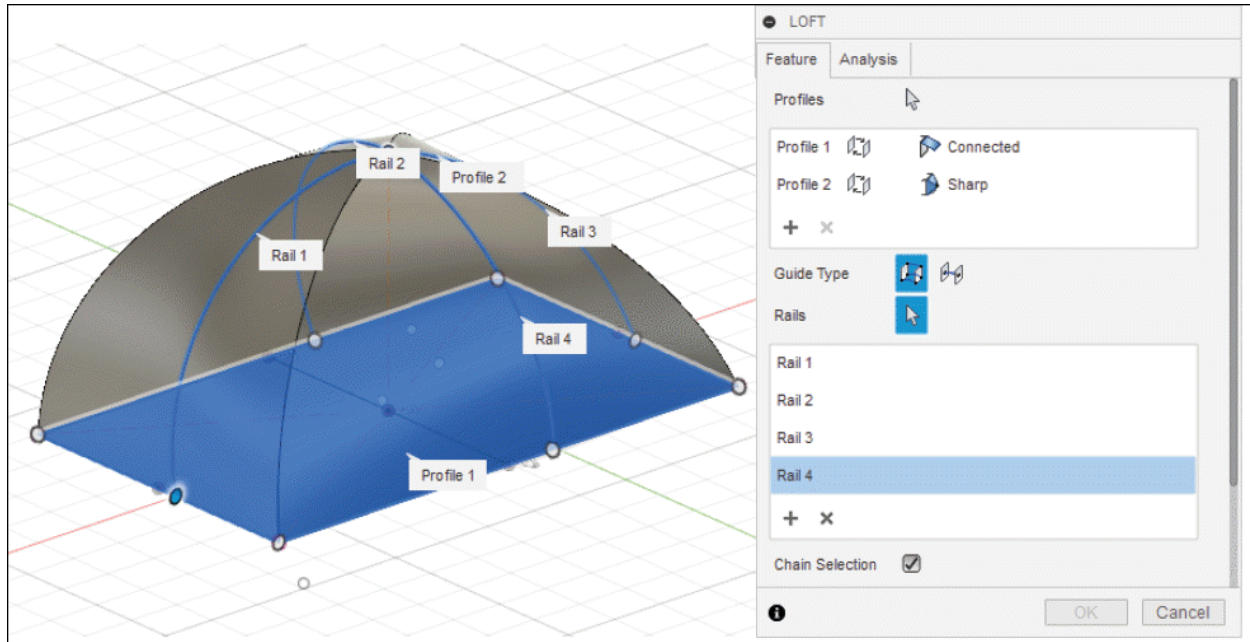

Figure-14. Preview of loft on selecting Rails
- Select the four arcs of the model; refer to Figure-14.